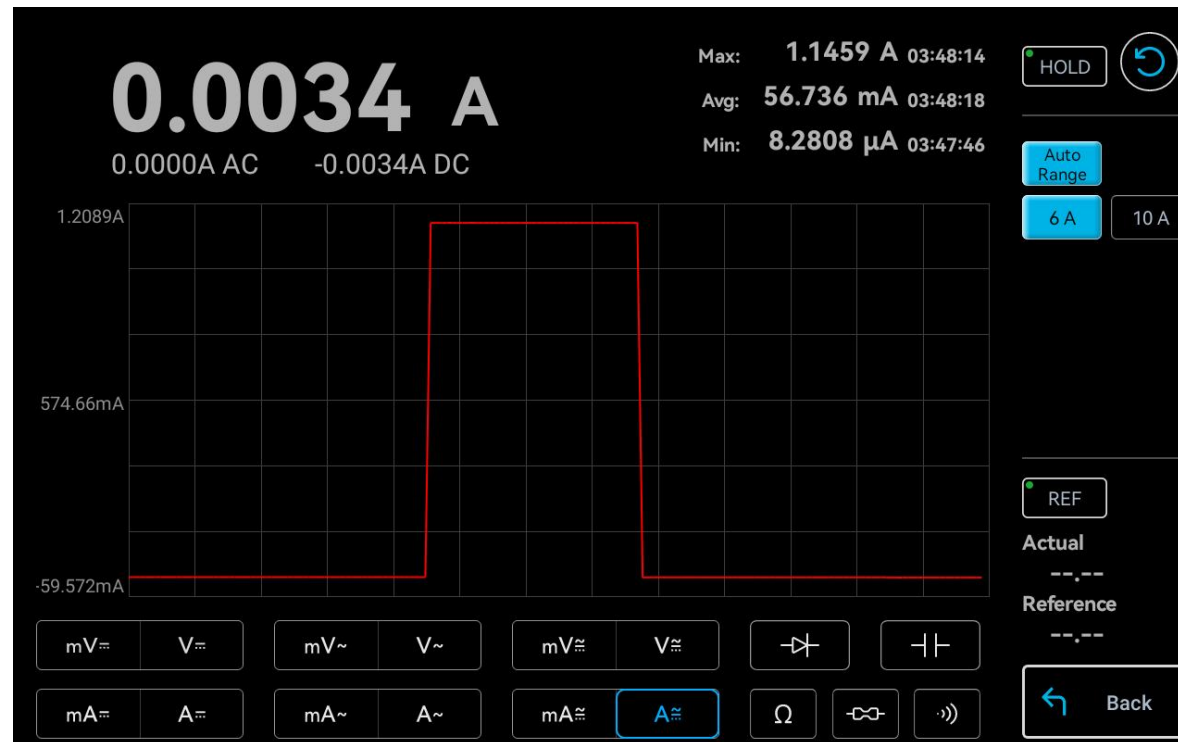

Figure 9-11 AC+DC Current Measurement (A)
Test Steps: Select and enable the AC+DC current measurement (A) in the measurement item selection area , as shown in Figure 9-11.